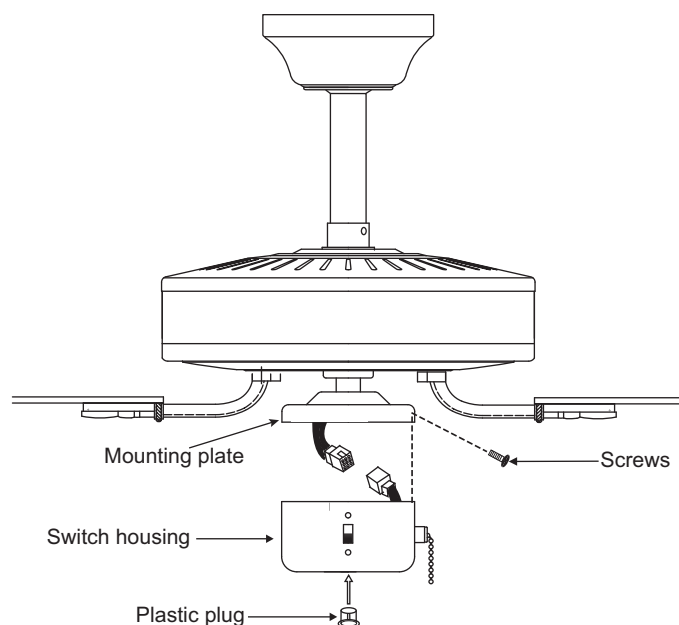

Figure 20
2. Attach the plastic plug to the switch housing. (Fig. 20)
3. Install the switch housing to the mounting plate with screws provided. (Fig. 20)